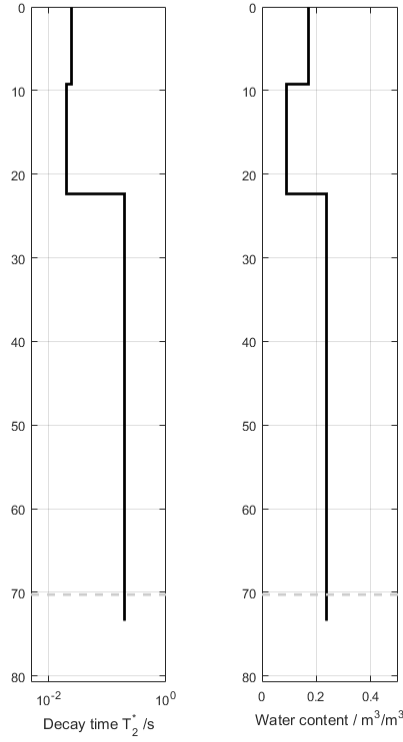

Figure 18: Example of block-mono results.
3. Block-Mono: this latter option uses a Genetic Algorithm instead of a classical inversion (Akca et al. 2014). The algorithm generates a set of models that are inside the search space and seeks for a set of possible models in the population. The results are displayed as in Fig. 18, which is very similar to the smooth-mono results with a blocky aspect.